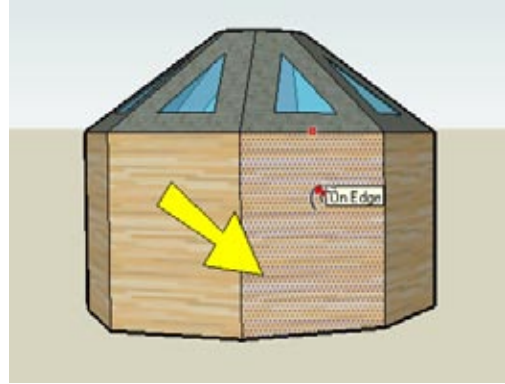

Figure 1-47
9. Now you'll make alternating windows and doors on the vertical faces. Activate Offset again, and place your cursor inside one of the faces, as shown in Figure 1-47 (don't click yet).